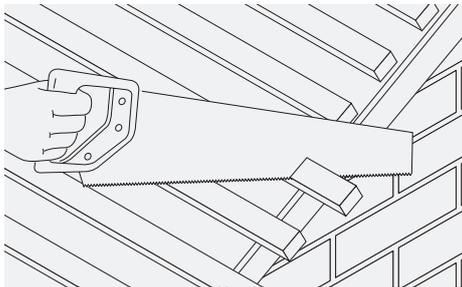

Fig. 6 - Saw battens flush
- 2 Set out tiling so that cloak verge tile fits flush with brickwork or bargeboard (Fig. 6).